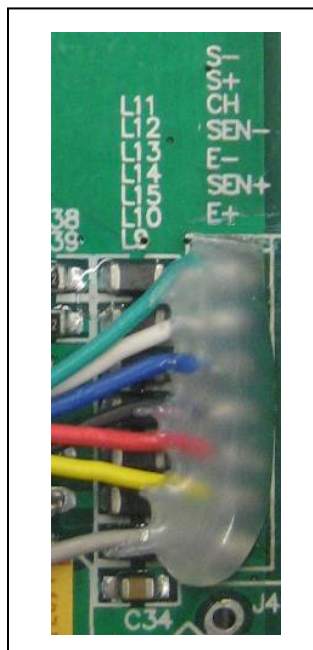

Fig. 1
- ⇒ Weld the individual wires of the load cell cable to the printed circuit board, see fig. 1. Details can be seen in the technical data of the load cell.